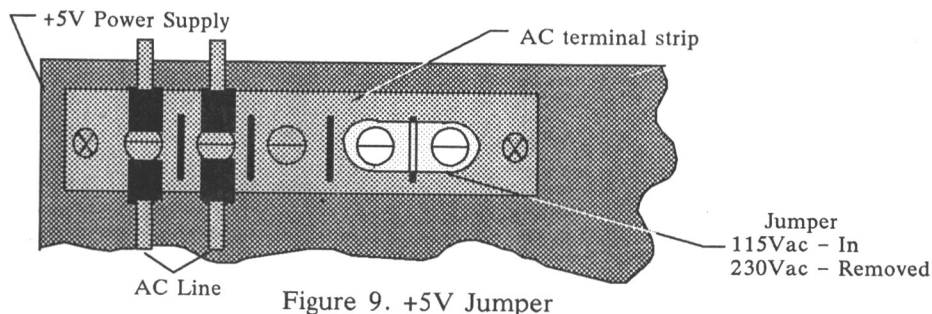

Figure 9. +5V Jumper
8. The +5V power supply must have a jumper across the two far right screws of the AC terminal strip located at the front-upper-left corner of the power supply for 115Vac operation (refer to Figure 9). For 230Vac operation, remove jumper.